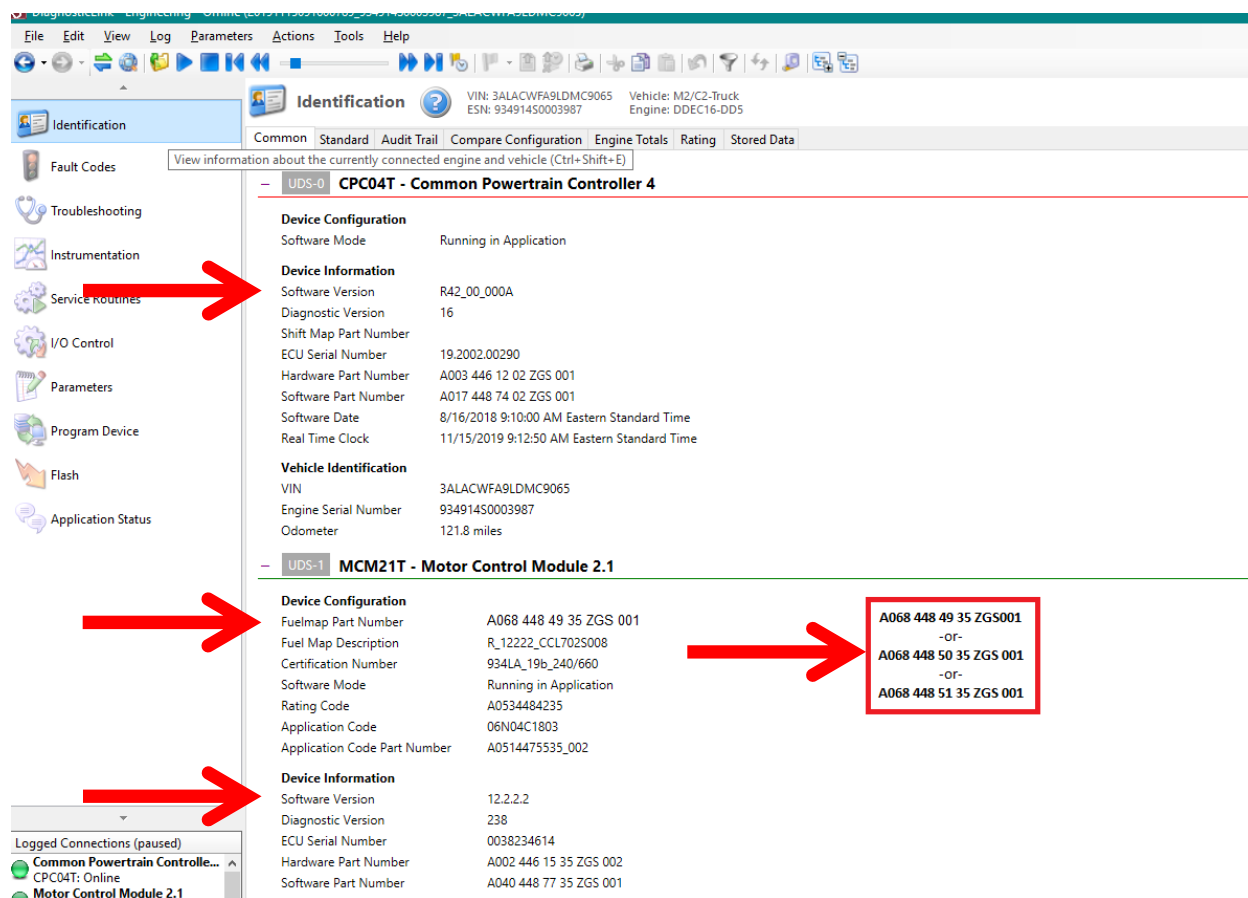

Figure 1 – DiagnosticLink® Identification Screen (CPC/MCM)
4. On the Identification screen, check the current MCM, ACM and CPC Software level. Listed below are the **MINIMUM** software levels and fuel map part numbers required. See Figure 1 for an example of the Identification screen.